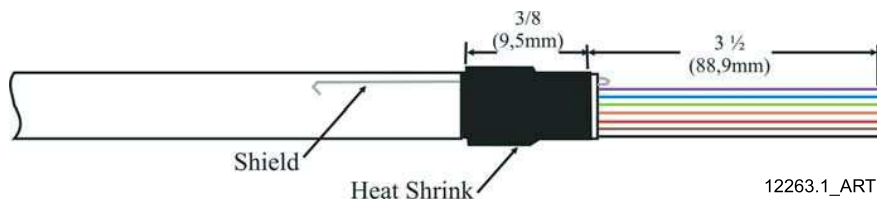

Figure 4-7: Seven-Conductor Control Head Cable Shield Wire and Heat-Shrink
- I Slide and shrink a piece of 3/8 inch W. X 1 inch L. heat-shrink over the cable as shown in Figure 4-7: Seven-Conductor Control Head Cable Shield Wire and Heat-Shrink.